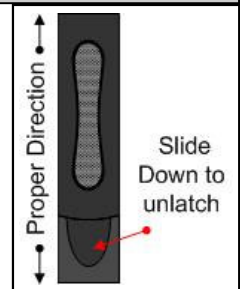

Figure 2—Drive Carrier
2. Release the drive carrier handle by sliding the latch downward to the unlocked position (as shown in Figure 2) and pivoting the handle to the upright position.